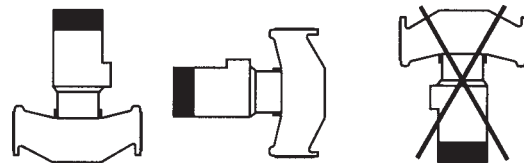

Figure 1
1. Close-coupled SFH units may be installed inclined or vertical. See Figure 1 for SFC installation positions.